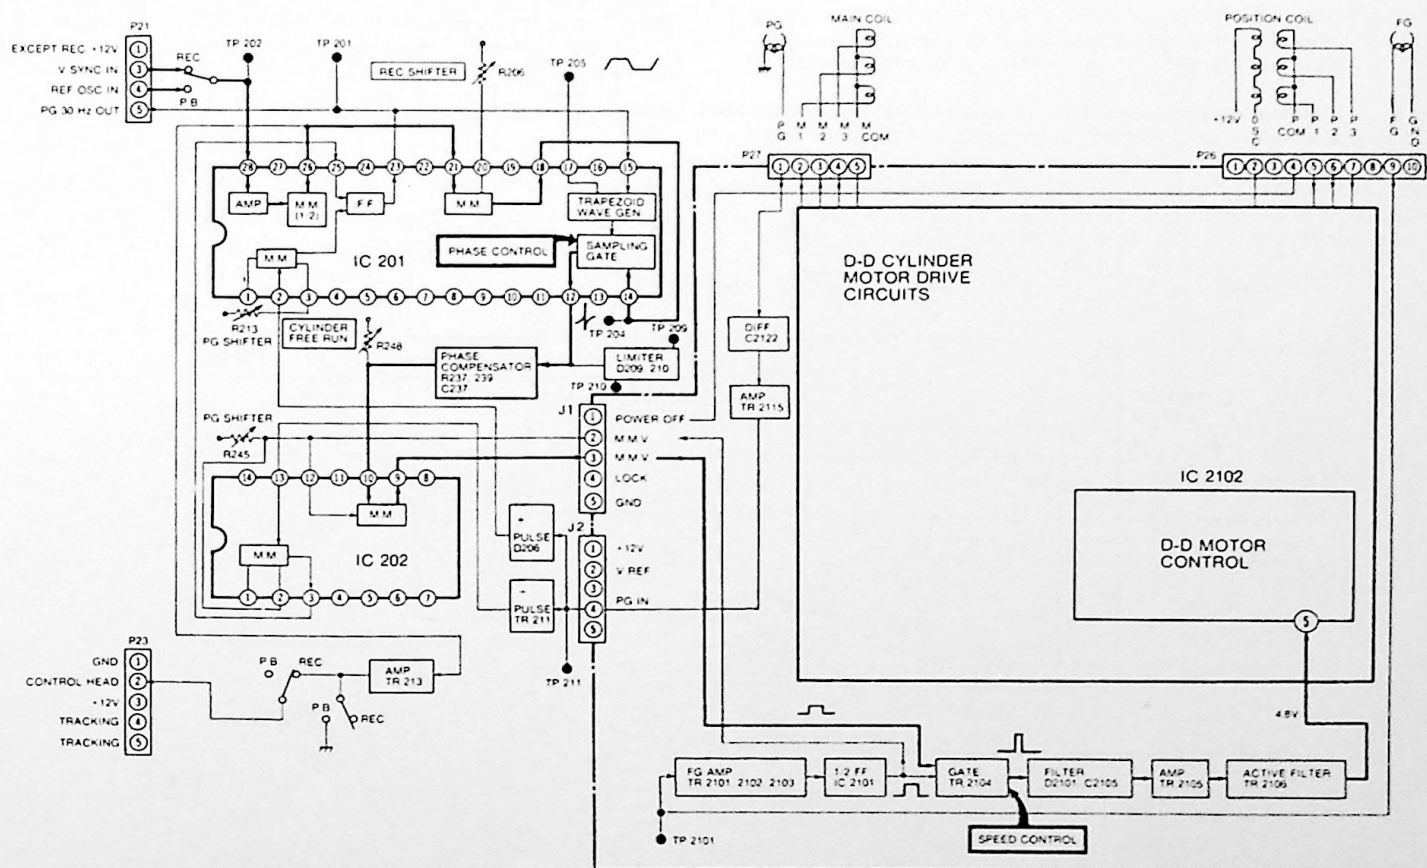

Figure 27. Cylinder Servo Detailed Block Diagram
As previously learned, the cylinder servo system operates differently in "Record" and "Play." Figure 27 shows that in the "Record" mode, the cylinder servo is locked to vertical sync taken from the sync separator — located on Chroma board. Input sync is applied to an amplifier stage in IC 201 via plug 21 pin 3 and the **record/playback** switch. In the Playback mode, the cylinder runs at a constant 1800 R.P.M. because it is locked to a 60-Hz signal obtained via a countdown chip clocked by the 3.58-MHz crystal oscillator on the Chroma board. In either case, the output of the IC 201 amplifier is applied to a $\div 2$ counter (MM — one-shot multivibrator) which outputs a 30-Hz signal at pin 26 of the chip. This 30-Hz signal supplies the control track signal during "Record," as well as furnishing input (via chip pin 21) to the record shifter one-shot multivibrator (MM). Record shifter output is at pin 18 of the chip. This signal, after differentiation into a narrow pulse, is applied back into pin 14 of the IC to act as the sample pulse for the sample gate. (The record shifter stage is an adjustable time-delay circuit that allows the vertical-sync pulse to be physically positioned on the tape so that it occurs soon after head switching during playback.)